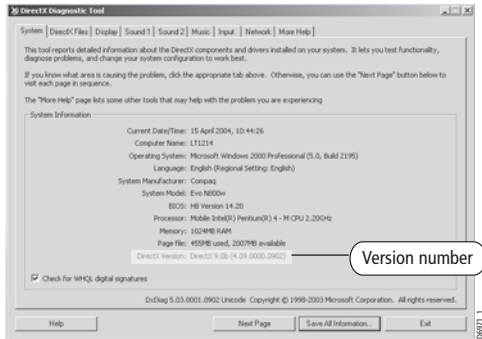

Figure 2-3: Direct X Diagnostics screen 1.
3. Type in, dxdiag. Click *OK*. The DirectX diagnostic tool will be displayed. See Figure 2-3